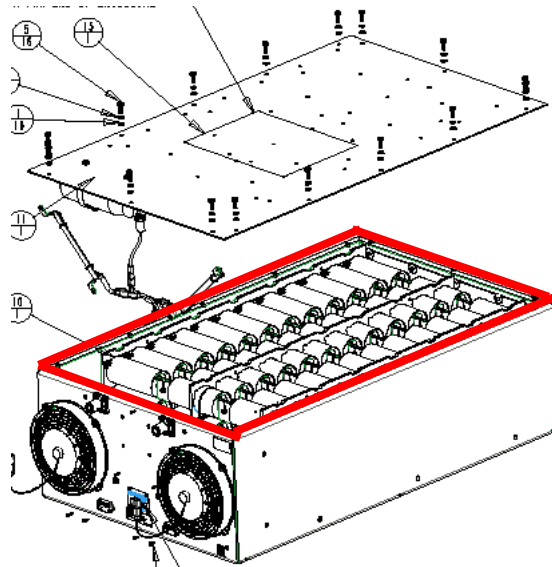

Fig 18 – UCAP Sealing
- u. Ensure the mating surface of the UCAP lid is clean and free of dirt. Place a bead of silicone around perimeter of UCAP and secure lid with existing hardware. Place silicone around all rivet heads to prevent any water intrusion. Ensure all additional covers are re-installed after the UCAP lid has been set in place. See Fig 18